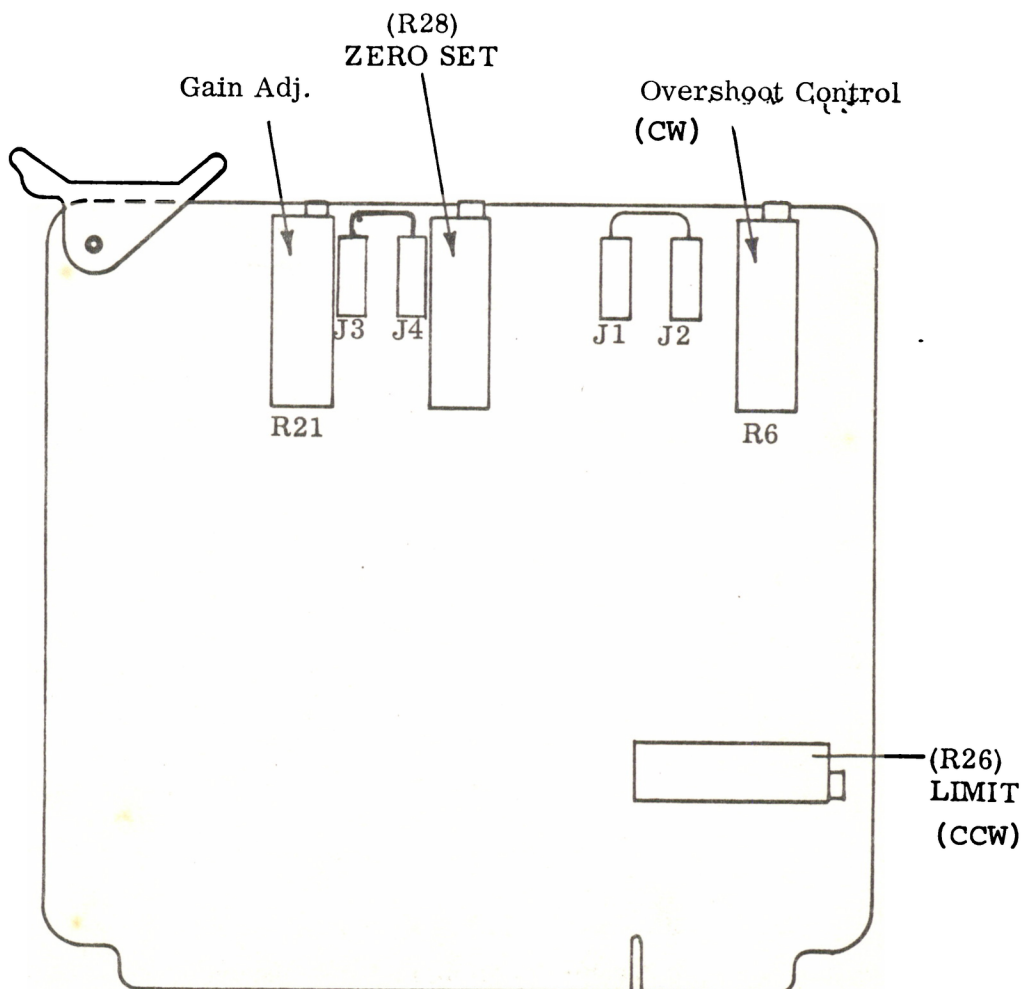

Figure 5. Upper and Lower Reel Servo Card Adjustment Points
9. Rotate R26 full counterclockwise, and R6 and R21 fully clockwise. See Figure 5.